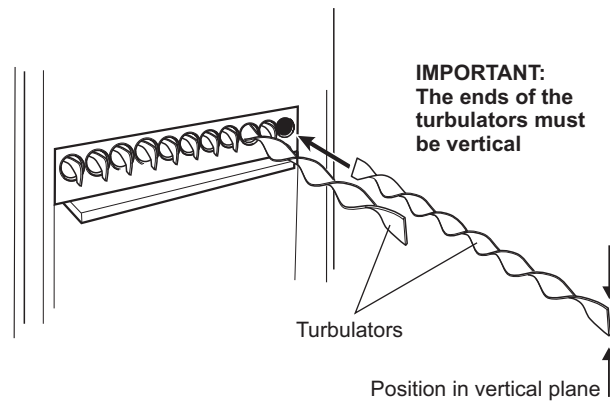

Fig. 21 - Removal/replacement of spiral turbulators
- 7 Pull out the spiral turbulators from the heat exchanger tubes. See Fig. 21.